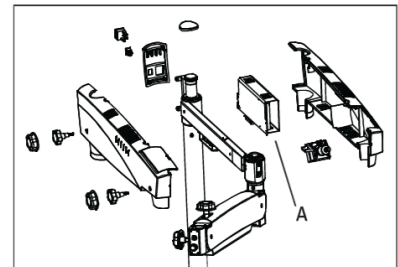

**Fig. 35**
1. Connect the power cable to the AC inlet socket (1) provided on the back of the swivel arm as shown in the fig.35. Switch on the power from on/off switch (2).
**Note:** Power supply is designed with universal input 100V - 240V AC, 50/60HZ. To plug in follow instruction on electrical label provided at bottom of the arm as shown (3) here in Fig.35.
It is located on the back of the swivel arm Ref. Fig. 35. At '2' position, microscope is on and cooling fan starts running.